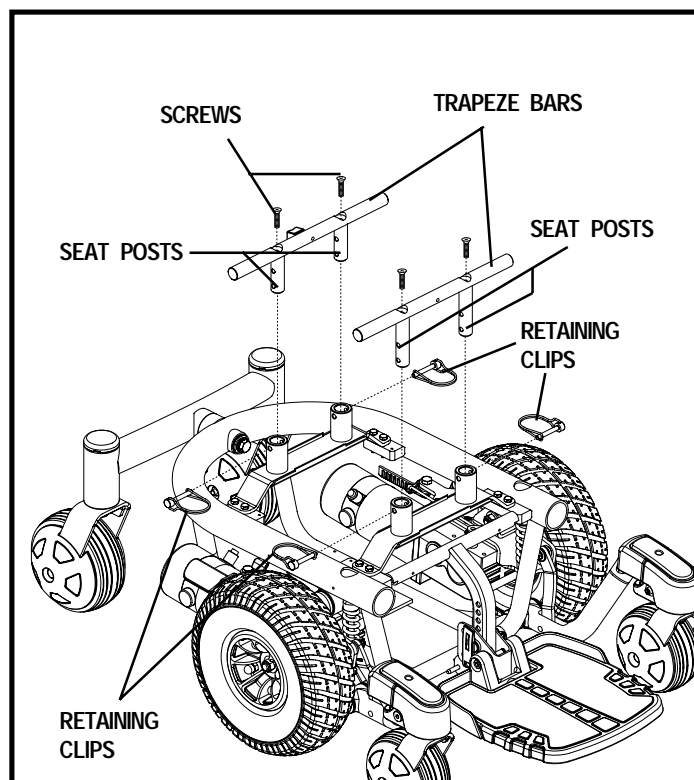

Figure 16. Seat Height Adjustment - Trapeze Bars
7. Loosen the screws that attach the trapeze bars to the seat posts. See figure 16.
8. Remove the retaining clips that secure the seat posts to the power base. See figure 16.